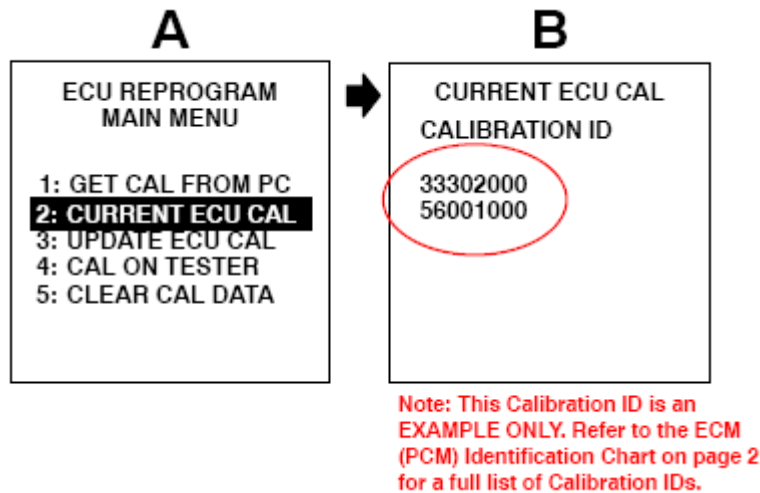

Fig. 1: Determining Current ECU Calibration Display
2. Connect the Diagnostic Tester to the vehicle and select "CURRENT ECU CAL" from the "ECU REPROGRAM MAIN MENU." To determine the vehicle's current ECM (PCM) calibration, see **Fig. 1** below.